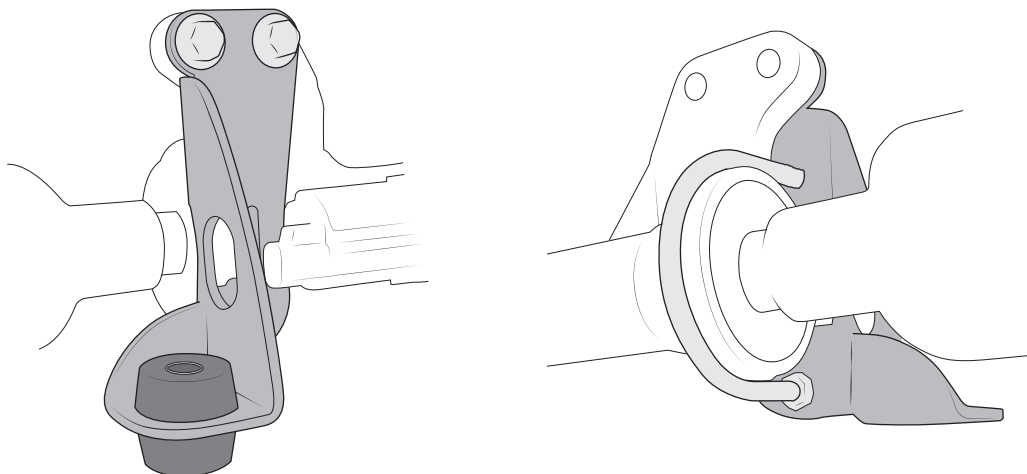

Figure 11
C. Install passenger bracket using M12x45mm bolts and flange nuts torqued to 75 ft-lb, then install u-bolt as shown. Thread one 3/8" nut onto u-bolt before installing it onto differential and bracket. Install u-bolt to differential and bracket, then install two 3/8" non-flange nuts to outside face, and tighten to 22 ft-lb, being sure that the rear nut is still loose. Once front nuts are tight, tighten rear nut against bracket (fig. 11).